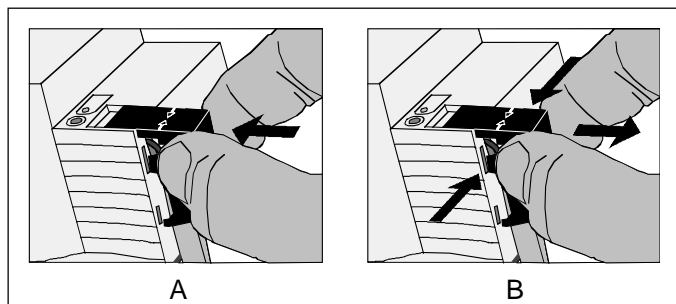

Fig. 2: Installing / removing the protective cap
- To install the cap: Slide the cap over the bus connecting terminal until it is heard to engage (cf. fig. 2.A).
- To remove the cap: Remove the cap by pressing the sides slightly and by pulling it out to the front (cf. fig. 2.B).